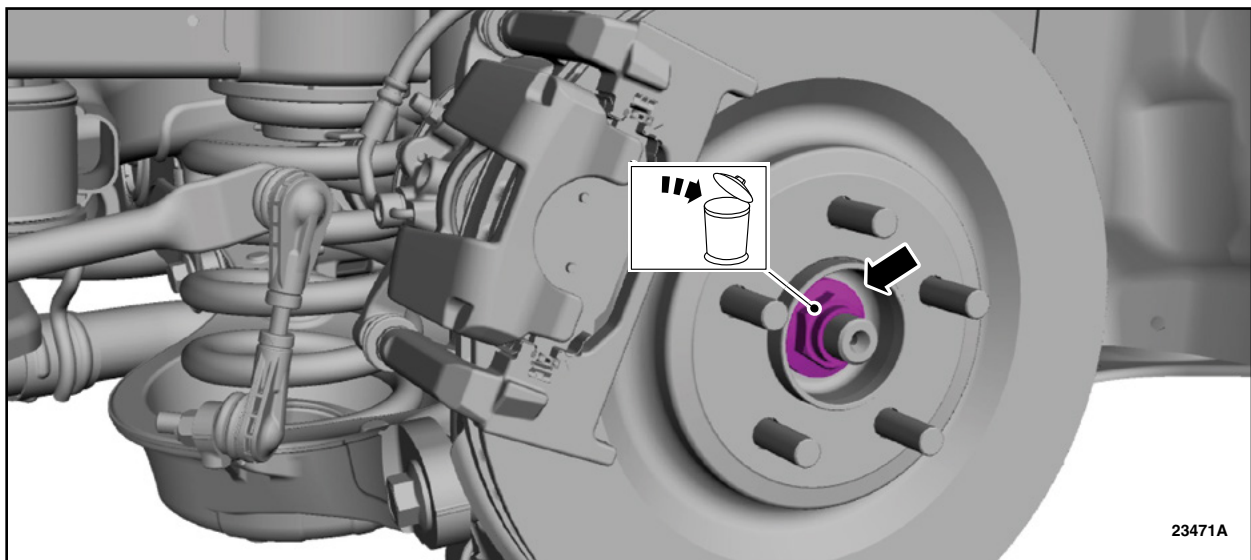

FIGURE 4
7. Remove and discard the LH rear wheel hub nut. See Figure 4.